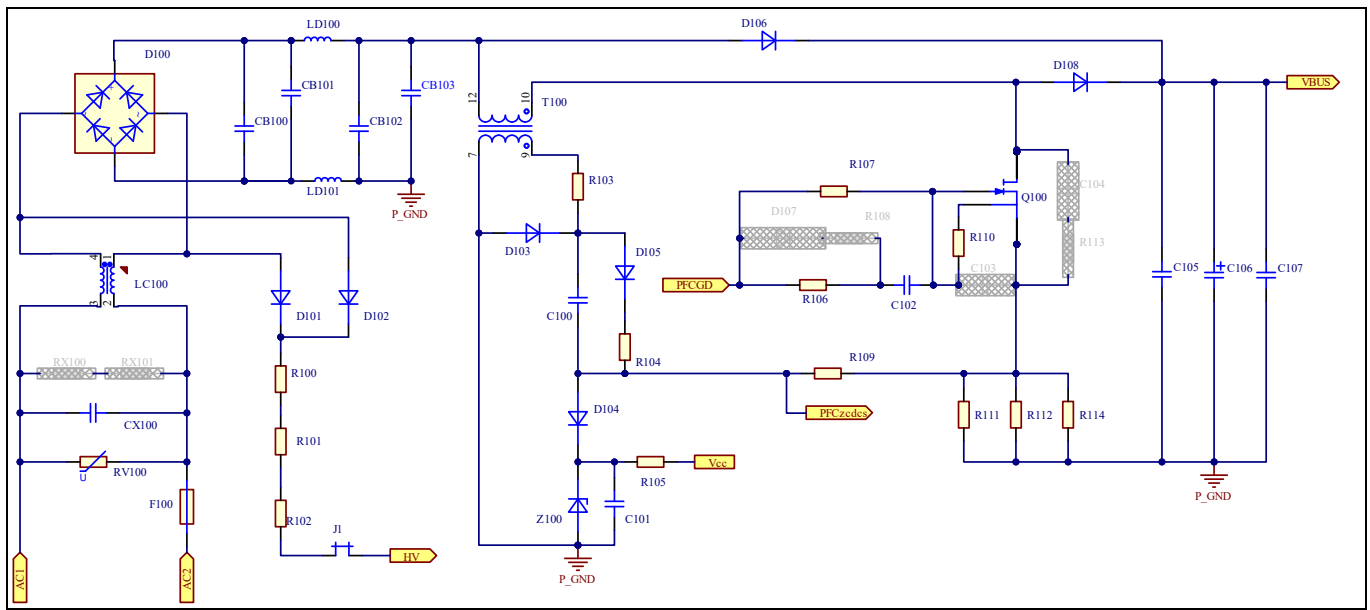
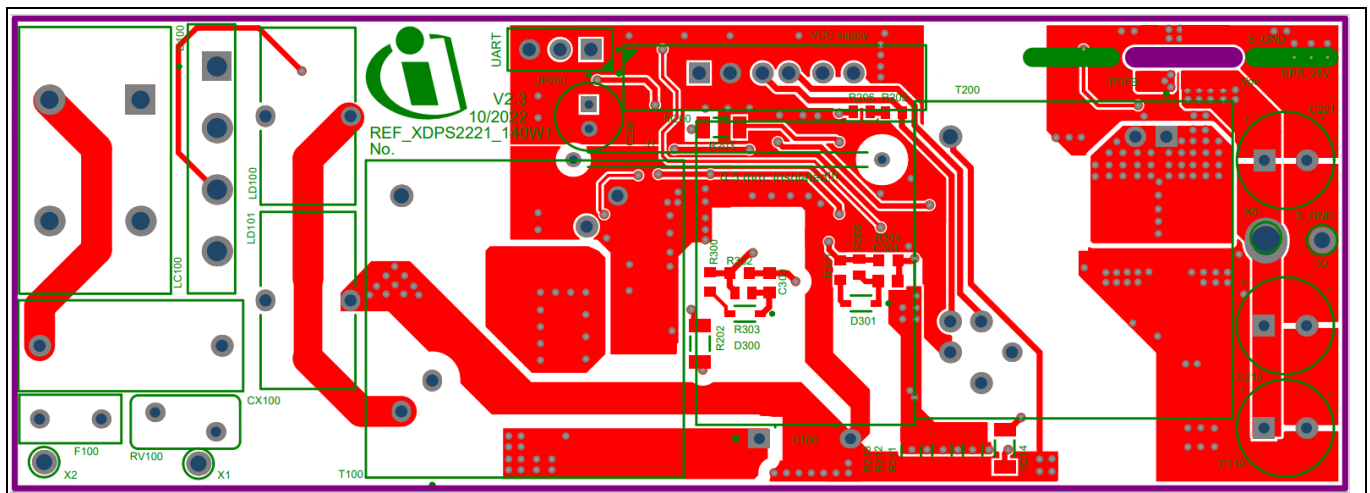
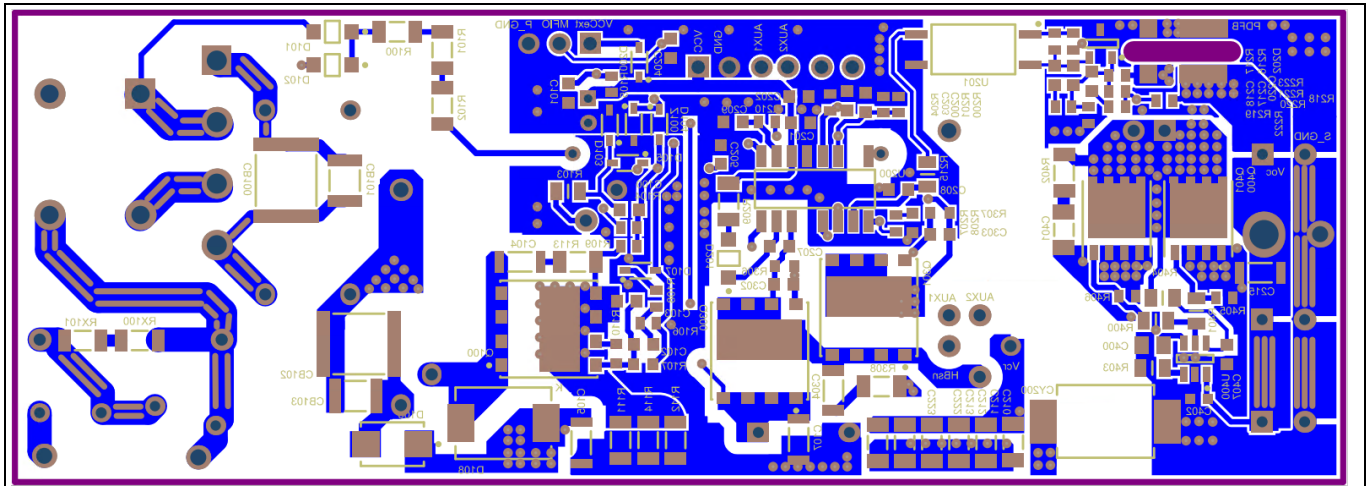

Figure 3 PFC stage schematic
Figure 7 Main board PCB: top side
Figure 8 Main board PCB: bottom side
The schematic and PCB layout of the main board are shown in Figure 3 to Figure 8.
Figure 3 shows the power circuitry of the AC input and PFC stage, including the input protection and EMI filter (RV100, CX100, LC100, D100, CB100, CB191, LD100, LD101, CB102 and CB103), and the start-up cell external circuit (D101, D102, R100, R101 and R102). The PFC zero-crossing detection (ZCD) and current sensing (CS) signals are combined into a single signal, PFC_{zcdcs}, which is connected to IC pin PFCCS. The voltage at the PFC auxiliary winding, which is coupled to the PFC main inductance (T100), is processed by the devices R103, D103, D105, R104, C100, D104, Z100, C101 and R105 to generate the ZCD signal, where D103 is for the negative clamping, and the network D104, Z100, C101 and R105 limits the positive voltage of the ZCD signal. Per resistor R109, the ZCD signal is effectively de-coupled from the PFC CS resistors R111, R112 and R114, which provide the CS signal to the control IC. A CoolGaN™ device is used as the main switch, Q100, and it is driven directly by the XDP™ XDPS2221 from the PFCGD pin with the external RC network (R107, R106 and C102).
To keep system costs low, two-layer PCBs are used for all boards. **Figure 7** and **Figure 8** show the PCB layout of the main board.